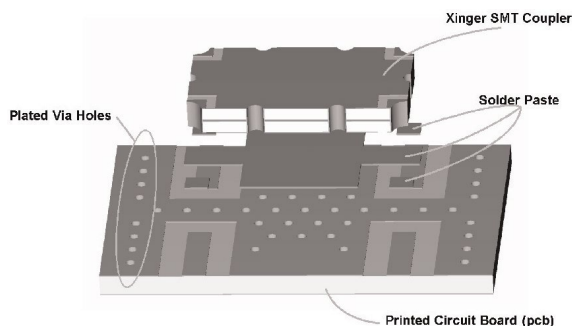

**Figure 2: Solder Paste Application**
**Solder Paste:** All conventional solder paste formulations will work well with Anaren's Xinger surface mount components. Solder paste can be applied with stencils or syringe dispensers. An example of a stenciled solder paste deposit is shown in Figure 2. As shown in the figure solder paste is applied to the four RF pads and the entire ground plane underneath the body of the part.